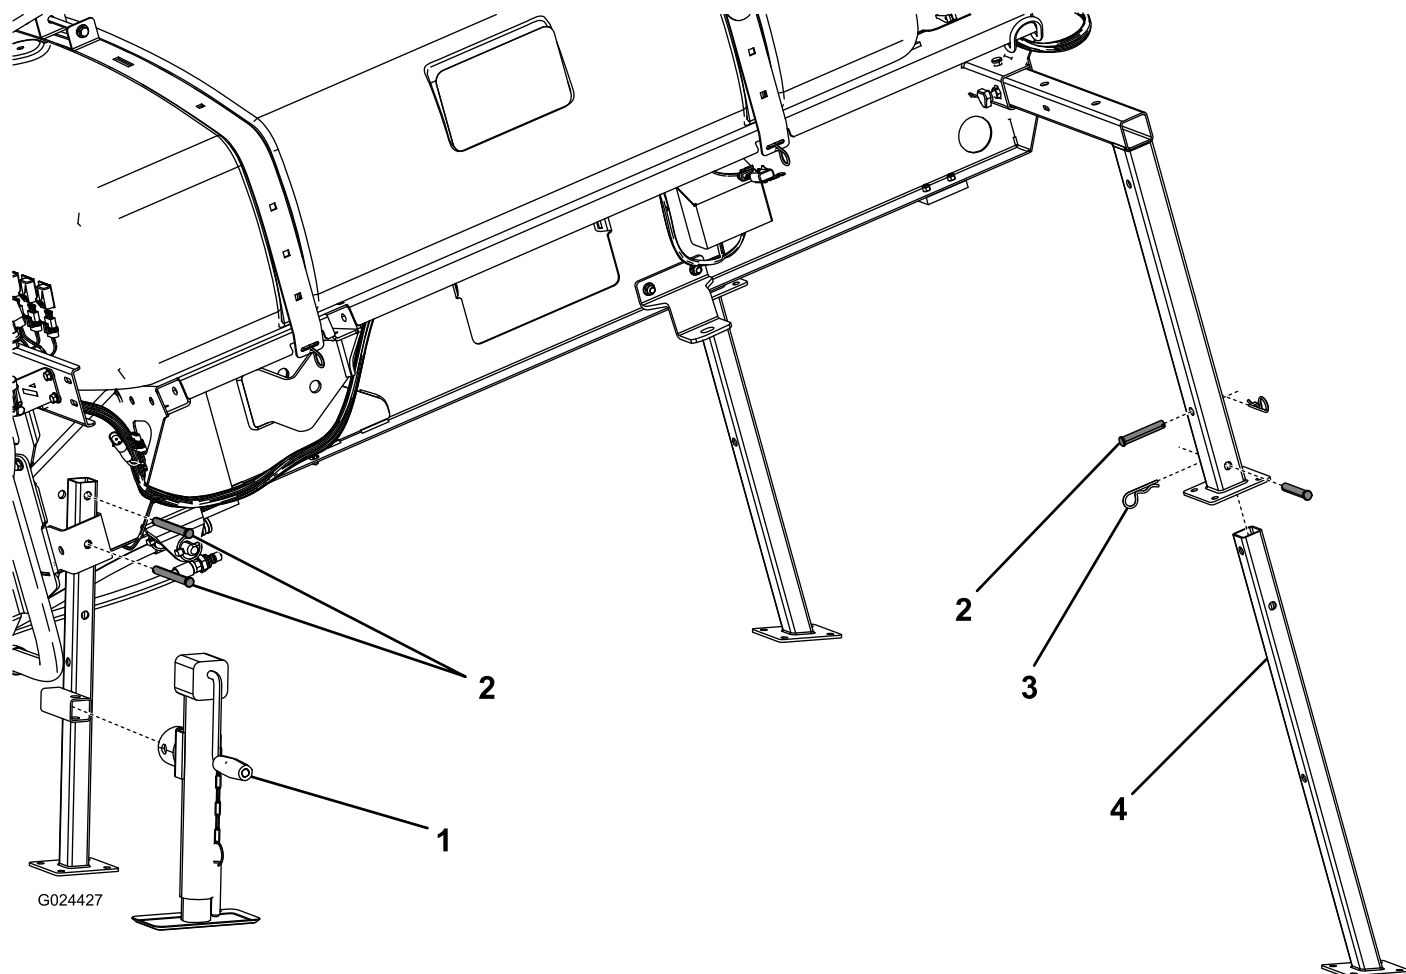

Figure 1
5. Mount the jack stand legs to the machine as shown in Figure 1.
8. Connect the jacks to the rear jack stands (Figure 1).
10. Attach the front jack stand extensions (Figure 1) and lower the tank skid until they touch the ground.